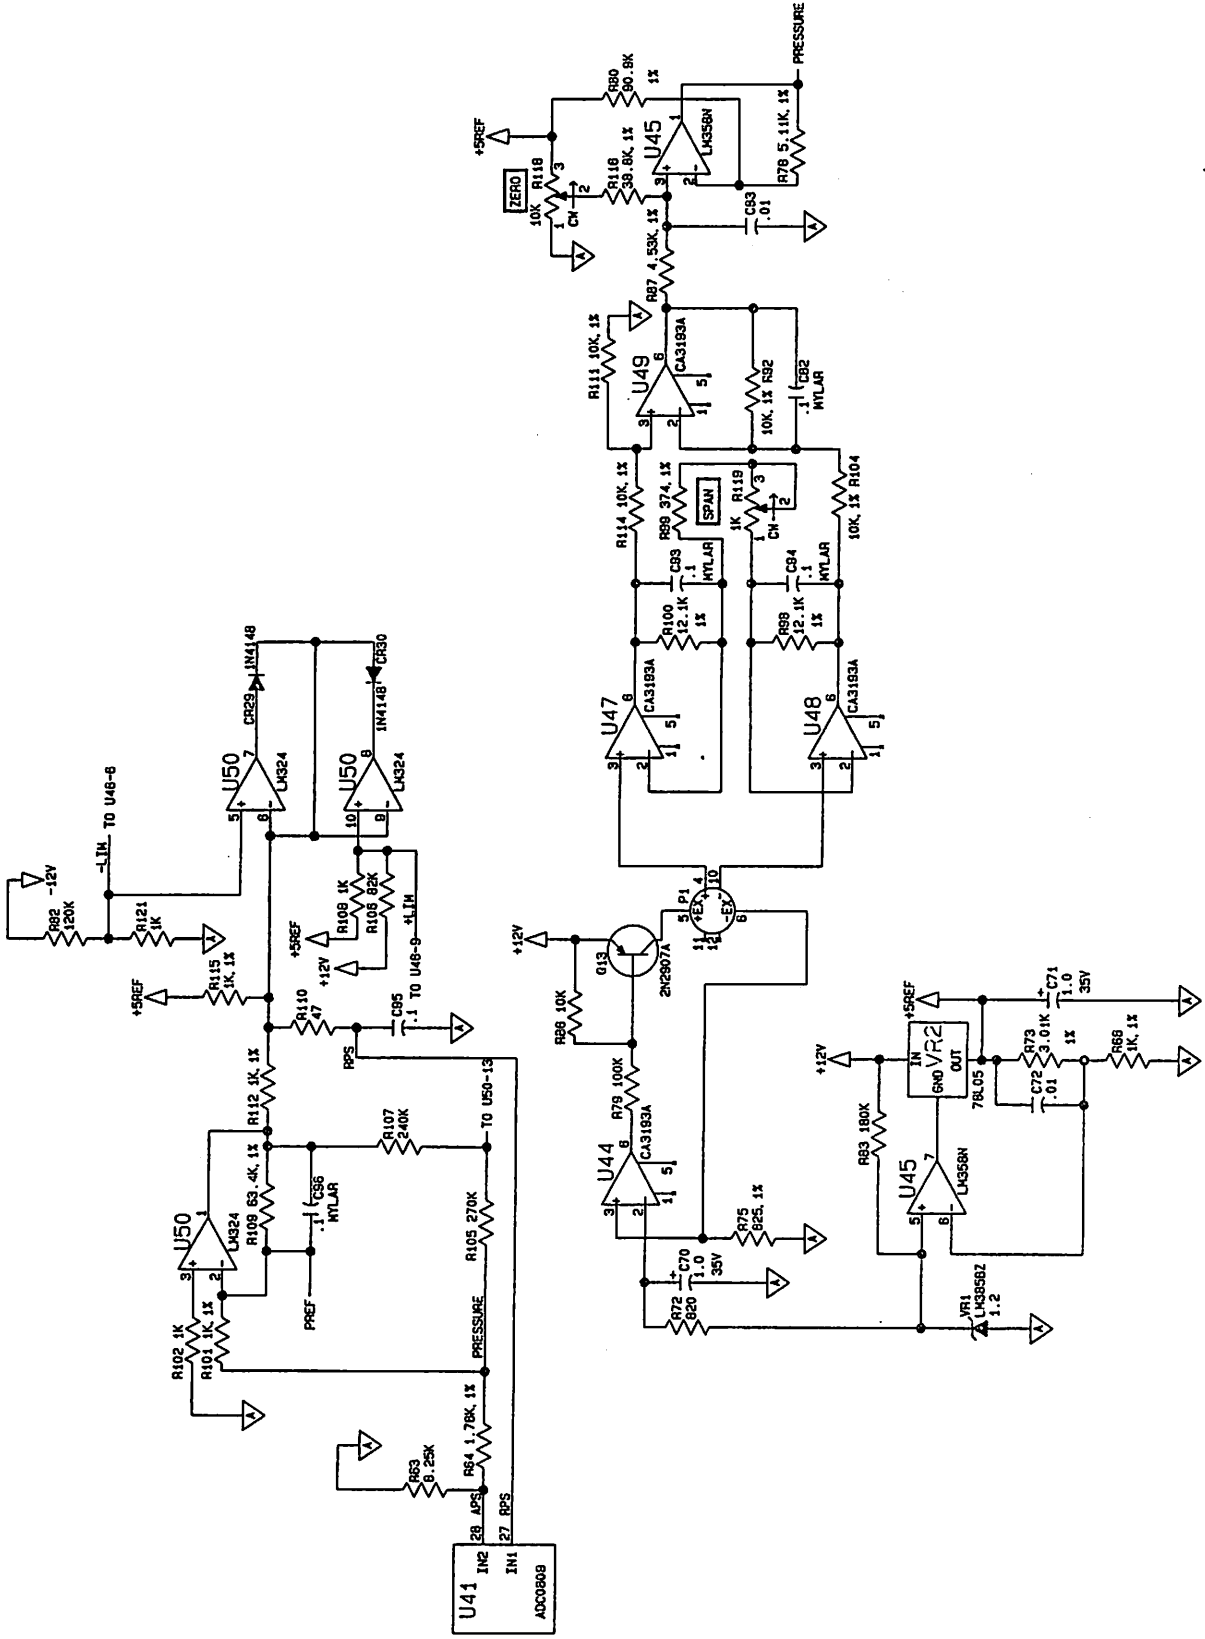

Figure 3-16. Pressure Channel
The pressure sensor and amplifier circuit U47, U48, U49, and U45 outputs a voltage corresponding to the pressure in the cuff, which is transformed by R101 into a current that drives error amplifier U50-1 (figure 3-16).
d. Pressure Channel (figure 3-16)